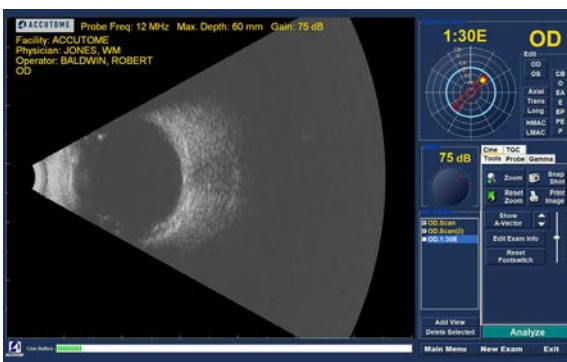

Figure 5.28 - Changing a View - Done
5. The edited current view will appear in the list of “All Views” as shown in Figure 5.28.